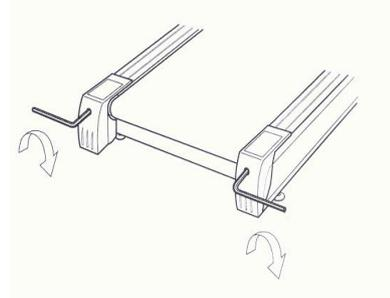

Figure 3
- 3. Running belt is slipping during use (Figure 3)**